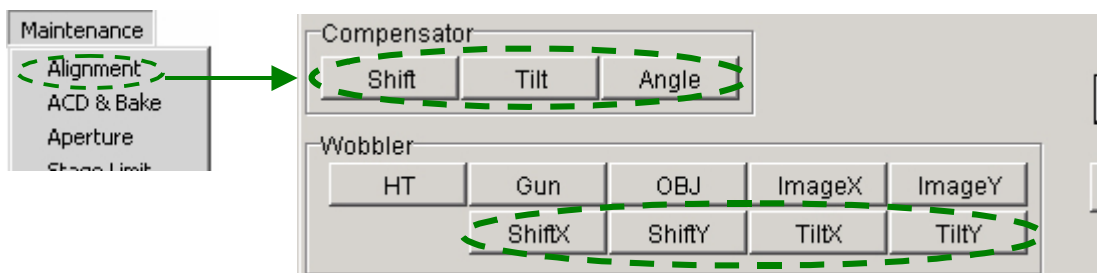

Fig. 5.26 Alignment Panel for Maintenance window (Deflection-coil adjustment using the circled buttons)
- ✍ When you turn the BRIGHTNESS (L1-⑥) knob slowly back and forth through the focus position, the electron beam spot is elliptical if astigmatism exists in the condenser lens.
- ◆ Select **Maintenance** from the **TEM Controller** menu bar and click on **Alignment** to open the **Alignment Panel for Maintenance** window (👉 Fig.5.26).
2. Focus the electron beam using the BRIGHTNESS knob (L1-⑥).
3. Press BRIGHT TILT (I1-⑤) or click on DEF Select **CLA** in the **Alignment Panel for Maintenance** window.
4. Center the electron beam using the SHIFT knobs (L1-⑧, R1-③).
5. Click on Compensator **Tilt** in the **Alignment Panel for Maintenance** window (☞ Fig.5.26).
✎ If the electron beam spot splits into two parts in the Y direction, click on Compensator **Angle** in the **Alignment Panel for Maintenance** window (☞ Fig.5.26); then unify the split spot using the DEF/STIG X knob (L1-⑩). After making sure that the spot is unified, click on Compensator **Angle** to turn it off.
9. If the electron beam moves off the screen center as you turn the BRIGHTNESS knob, center the beam using the SHIFT X and Y knobs (L1-⑧, R1-③) after pressing BRIGHT TILT (L1-⑤) or clicking on DEF Select **CLA** in the **Alignment Panel for Maintenance** window.
11. Unify the split spot using the DEF/STIG Y knob (L1-④).
✎ If the electron beam spot splits into two parts in the X direction, click on Compensator **Angle** in the **Alignment Panel for Maintenance** window (☞ Fig.5.26); then unify the split spot using the DEF/STIG Y knob (R1-③). After making sure that the spot is unified, click on Compensator **Angle** to turn it off.
12. If the electron beam moves off screen center as you rotate the BRIGHTNESS knob, center the beam using the SHIFT X and Y knobs (L1-⑧, R1-③) after pressing BRIGHT TILT (L1-⑤) or clicking on DEF Select **CLA** in the **Alignment Panel for Maintenance** window.
6. Unify the split spot using the DEF/STIG X knob (L1-⑩).
-  If the electron spot splits into two parts in the Y direction, click on Compensator **Angle** in the **Alignment Panel for Maintenance** window (see Fig.5.26); then unify the split spot using the DEF/STIG X knob (L1-⑩). After making sure that the spot is unified, click on Compensator **Angle** to turn it off.
8. If the caustic spot moves off the screen center as you turn the BRIGHTNESS knob, center the beam using the DEF/STIG X and Y knobs (L1-⑩, R1-④) after pressing BRIGHT TILT (L1-⑤) or clicking on DEF Select **CLA** in the **Alignment Panel for Maintenance** window.
10. Unify the split spot using the DEF/STIG Y knob (R1-④).
-  If the electron spot splits into two parts in the X direction, click on Compensator **Angle** in the **Alignment Panel for Maintenance** window (see Fig.5.26); then unify the split spot using the DEF/STIG Y knob (R1-④). After making sure that the spot is unified, click on Compensator **Angle** to turn it off.
13. If the caustic spot moves off screen center as you turn the BRIGHTNESS knob, center caustic spot using the DEF/STIG X and Y knobs (L1-⑩, R1-④) after pressing BRIGHT TILT (L1-⑤) or clicking on DEF Select **CLA** in the **Alignment Panel for Maintenance** window.